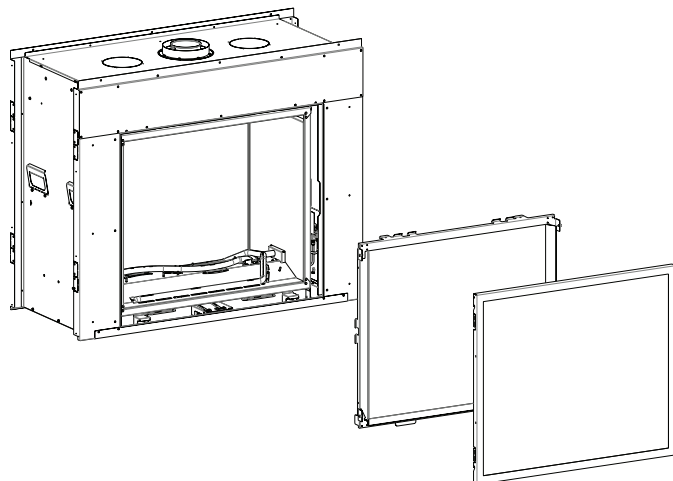

Figure 84
1. Remove the following items: **See Figure 84.**